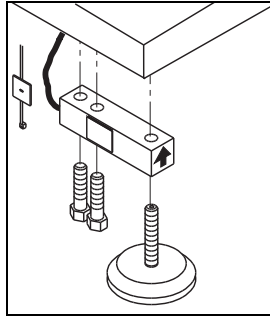

Figure 4-1. Load Cell Assembly
6. Position load cells with alignment arrows point up toward the deck and loosely install the hex head cap screws provided, as shown in Figure 4-1 on page 10.